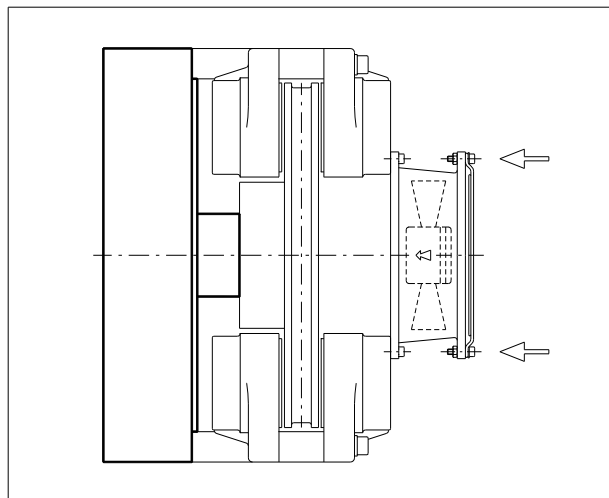

Figure 5
- Anchor the ventilator to the two mounting brackets using 2 M4 screws, and a n.3 Allen wrench. Then anchor the finger guard grid to the ventilator with the other 2 M4 screws and 2 nuts, using a n. 7 wrench (Figure 5). **NOTE:** Make sure that the flow direction arrow indicated on the ventilator points towards the brake.